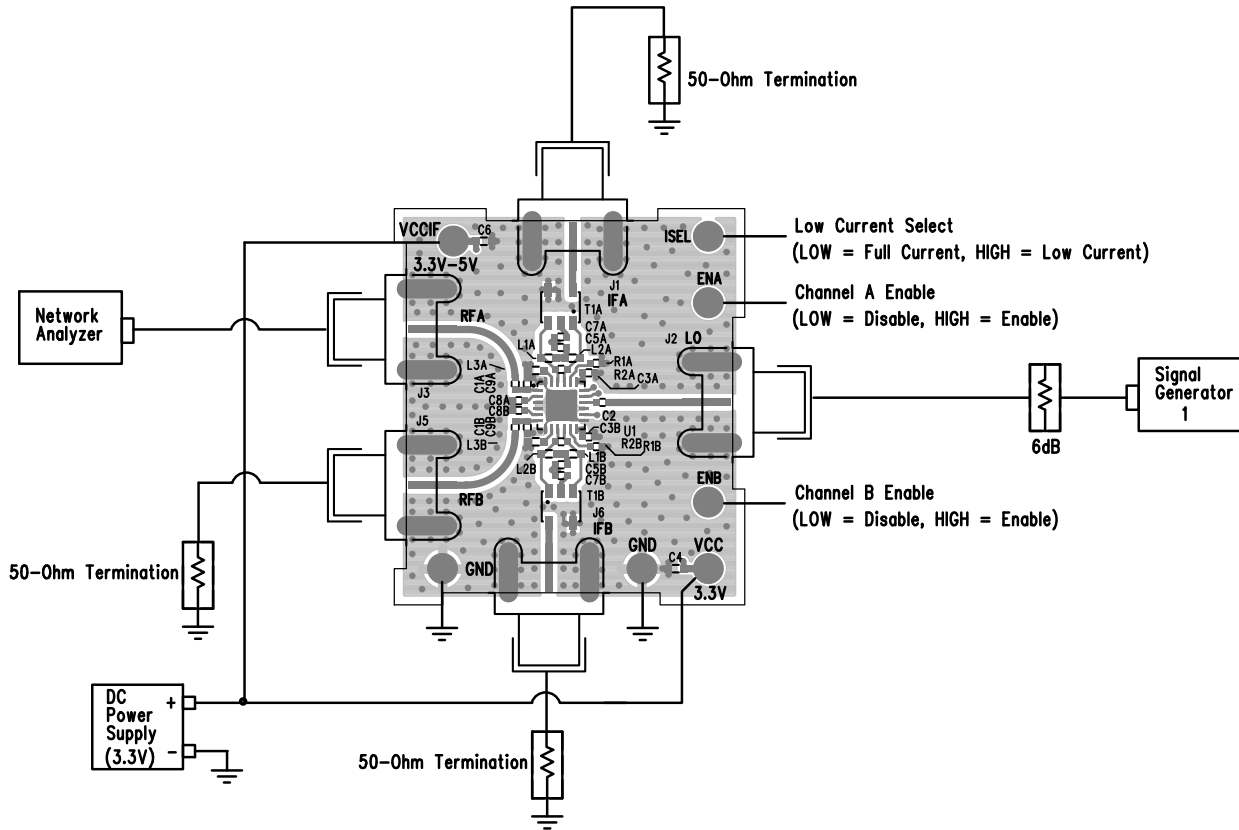
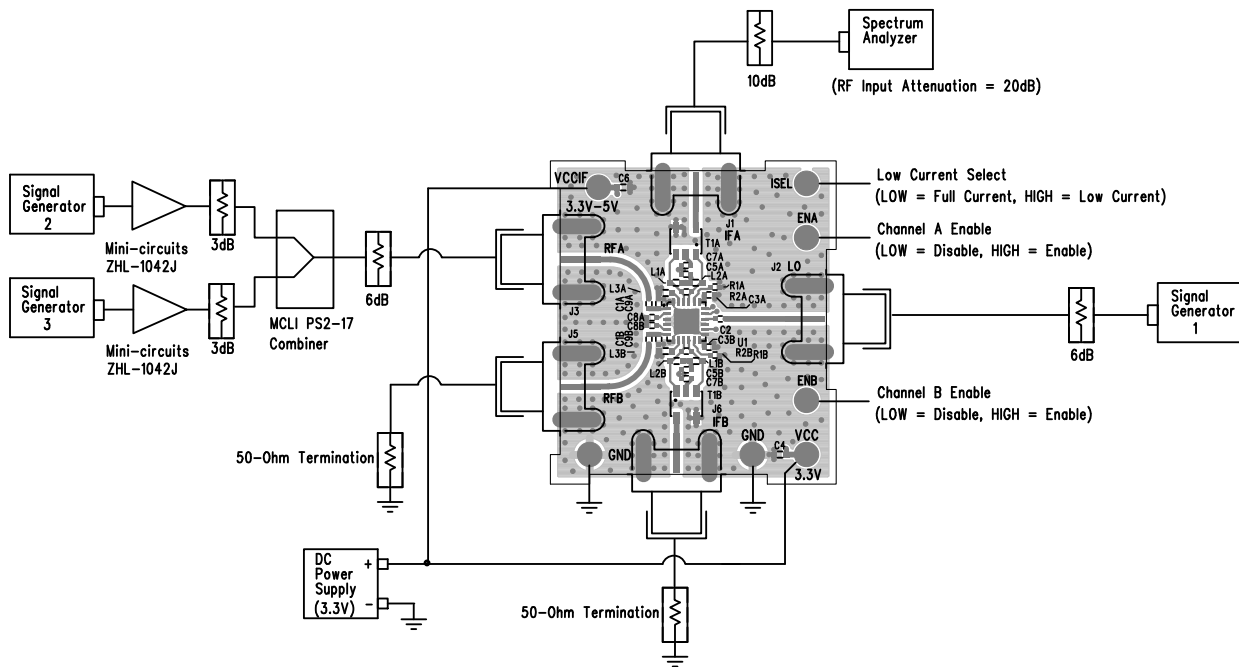

Figure 5. Proper Equipment Setup for Return Loss Measurements
Figure 6. Proper Equipment Setup for RF Performance Measurements
The LTC5591 is a dual high dynamic range downconverting mixer IC with very high input 3rd order intercept. Accuracy of its performance measurement is highly dependent on equipment setup and measurement technique. The recommended measurement setups are presented in Figure 5, Figure 6, and Figure 7. The following precautions should be observed:
The LTC5591 consists of high linearity passive double-balanced mixer cores and IF buffer amplifiers. Due to the bi-directional nature of all passive mixers the  $\text{LO} \pm \text{IF}$  mixing products, also referred to as pseudo-image spurs, are always present at the RF input, typically at a level 12dB below the RF input signal. Mismatched impedances at the pseudo-image spur frequencies, such as when filters are used for SSB NF measurements, can significantly impact the linearity and noise figure measurements. To avoid interference from the pseudo-image spurs, terminate the RF input port with an isolator, diplexer, or attenuator. In the recommended measurement setups presented in Figure 6 and Figure 7, the 6dB attenuator pad at the demonstration circuit's RF input serves this purpose.
Demonstration circuit 1710A-B is easy to set up to evaluate the performance of the LTC5591. Refer to Figure 5, Figure 6, and Figure 7 for proper equipment connections. The following procedures describe performing measurements on Mixer Channel A. The measurement procedures for Mixer Channel B are identical.
3. Connect all test equipment as shown in Figure 5 with the signal generator and the DC power supply turned off.
1. Connect all test equipment as shown in Figure 6 with the signal generators and the DC power supply turned off.